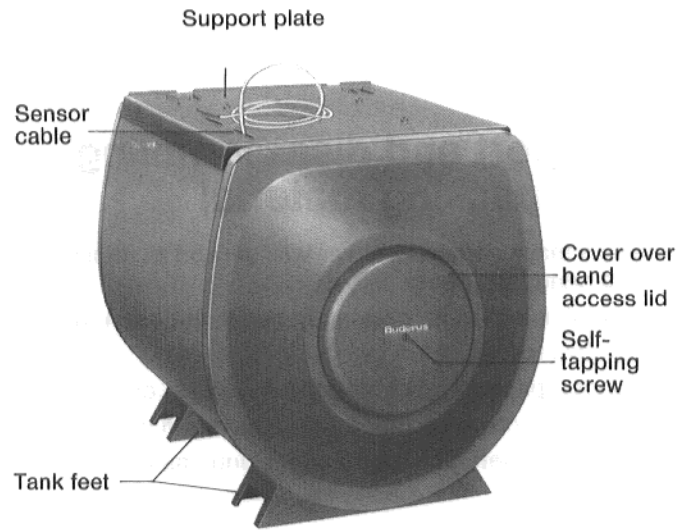

Fig. 6
2. Remove screws from the outer hand hole cover, take off cover and insulation (Fig. 6).